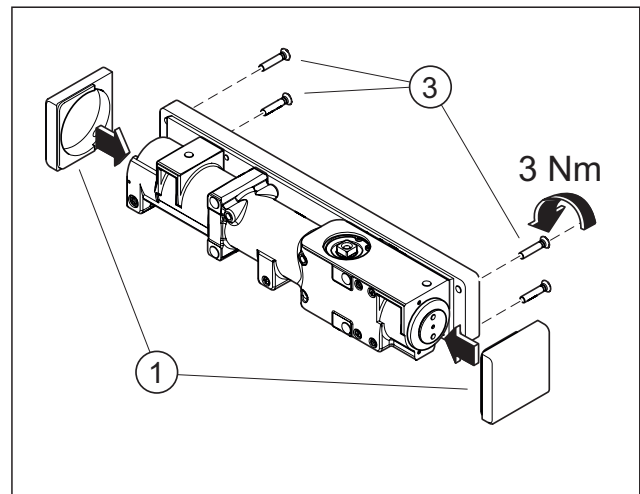

Fig. 8 Attach the end plates
2. Screw the end covers to the carrying plate (Fig. 8)